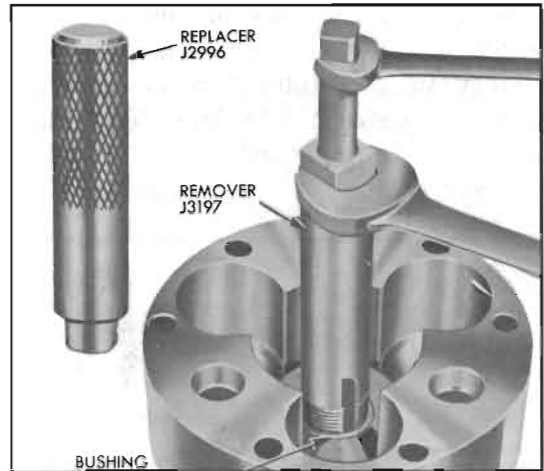

Figure 5-85—Removing Planet Carrier Bushing
4. Inspect bushing in rear end of planet carrier, and replace it if worn or scored. The bushing may be removed with Bushing Remover J 3197 and new bushing may be installed, either end first, by using Bushing Replacer J 2996. See figure 5-85. Reaming to size is not required.